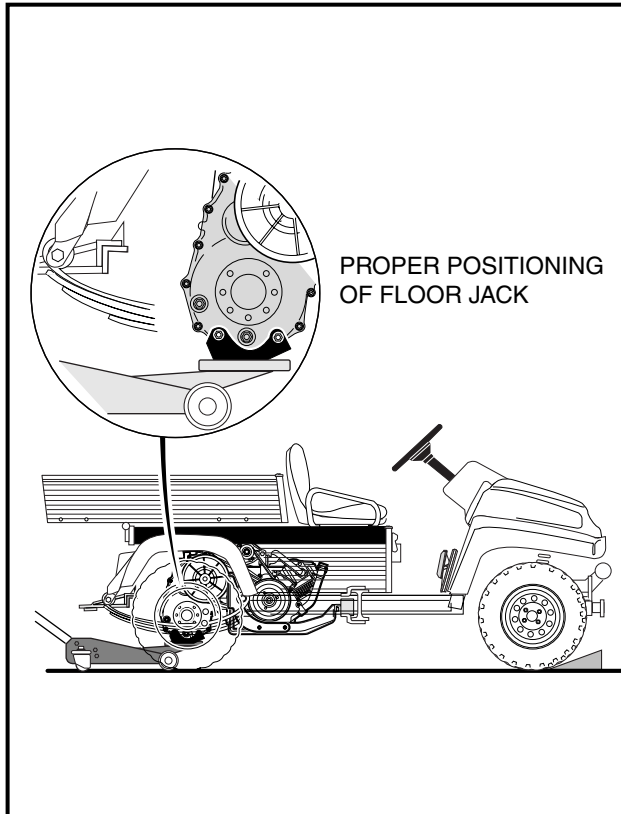
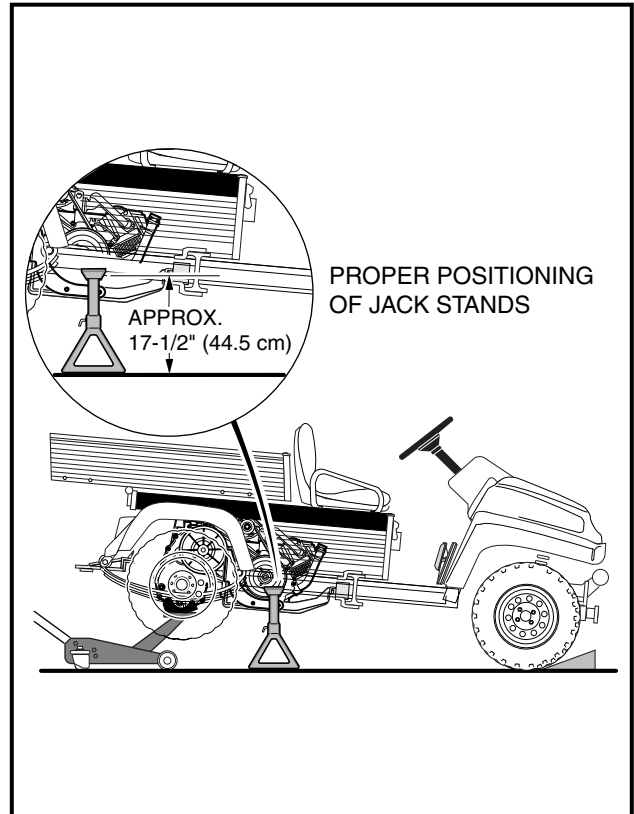

Figure 16-25 Raise Vehicle
Figure 16-26 Position Jack Stands
8. Use a hydraulic jack under the transaxle (**Figure 16-25, Page 16-13**) and raise the vehicle. Place jack stands, set at approximately 17-1/2 inches (44.5 cm) in height, under the frame (**Figure 16-26, Page 16-13**).
9. Lower the hydraulic jack, allowing the vehicle I-beam frame to rest on the jack stands but allow the jack to remain under, and in contact with, the transaxle case guard (**Figure 16-26, Page 16-13**).